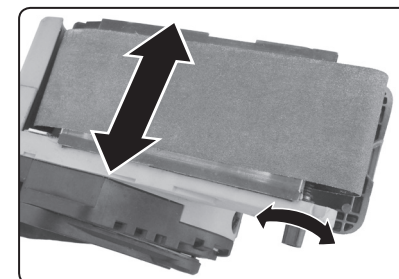

Fig. 6
- ➔ Tilt down the lever of the quick coupling system to tension the belt and, if necessary, adjust the position of the belt using the side bold (fig. 6).